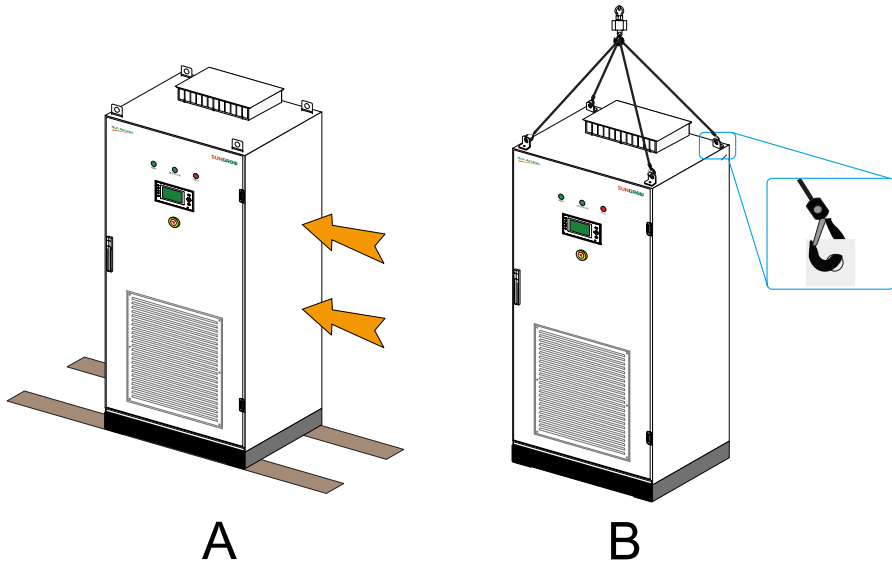

Fig. 7-4 Move and lift the inverter
- Move the inverter to its final installation position through the guild rail, see Fig. 7-4 A;
- Move the inverter by lifting channel steel, see Fig. 7-4 B.